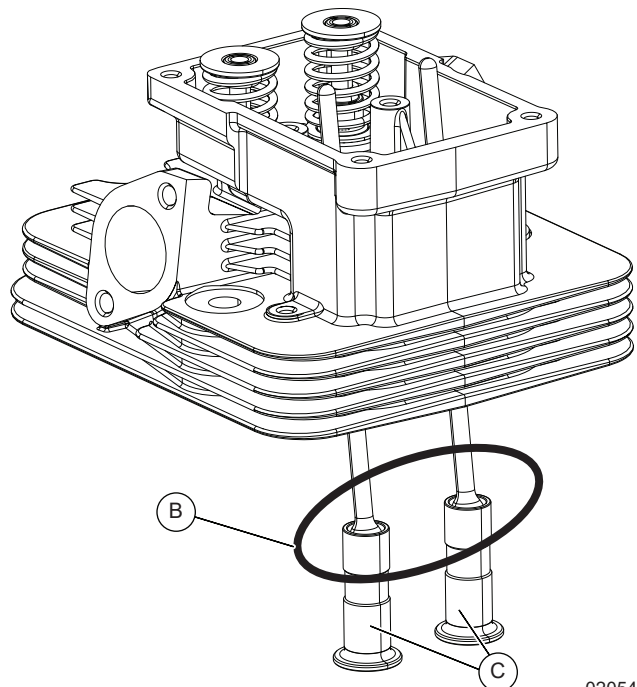

Figure 12-7. Install Pushrods into Tappets
2. See Figure 12-7. Verify each pushrod (B) is fully engaged in the recesses of the tappets (C).